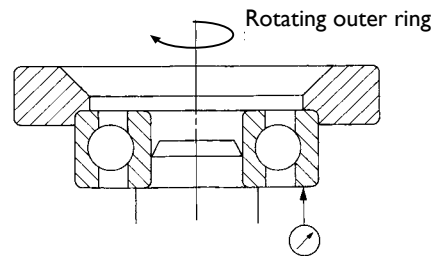

Figure 2-10
- Axial Runout of Outer Ring (S_{ea}) Figure 2-10